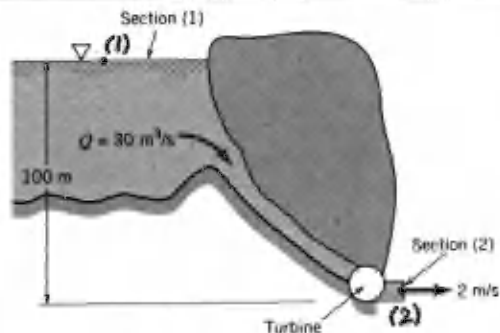

FIGURE P5.20R
5.20R (Energy equation) A hydroelectric power plant operates under the conditions illustrated in Fig. P5.20R. The head loss associated with flow from the water level upstream of the dam, section (1), to the turbine discharge at atmospheric pressure, section (2), is 20 m. How much power is transferred from the water to the turbine blades?